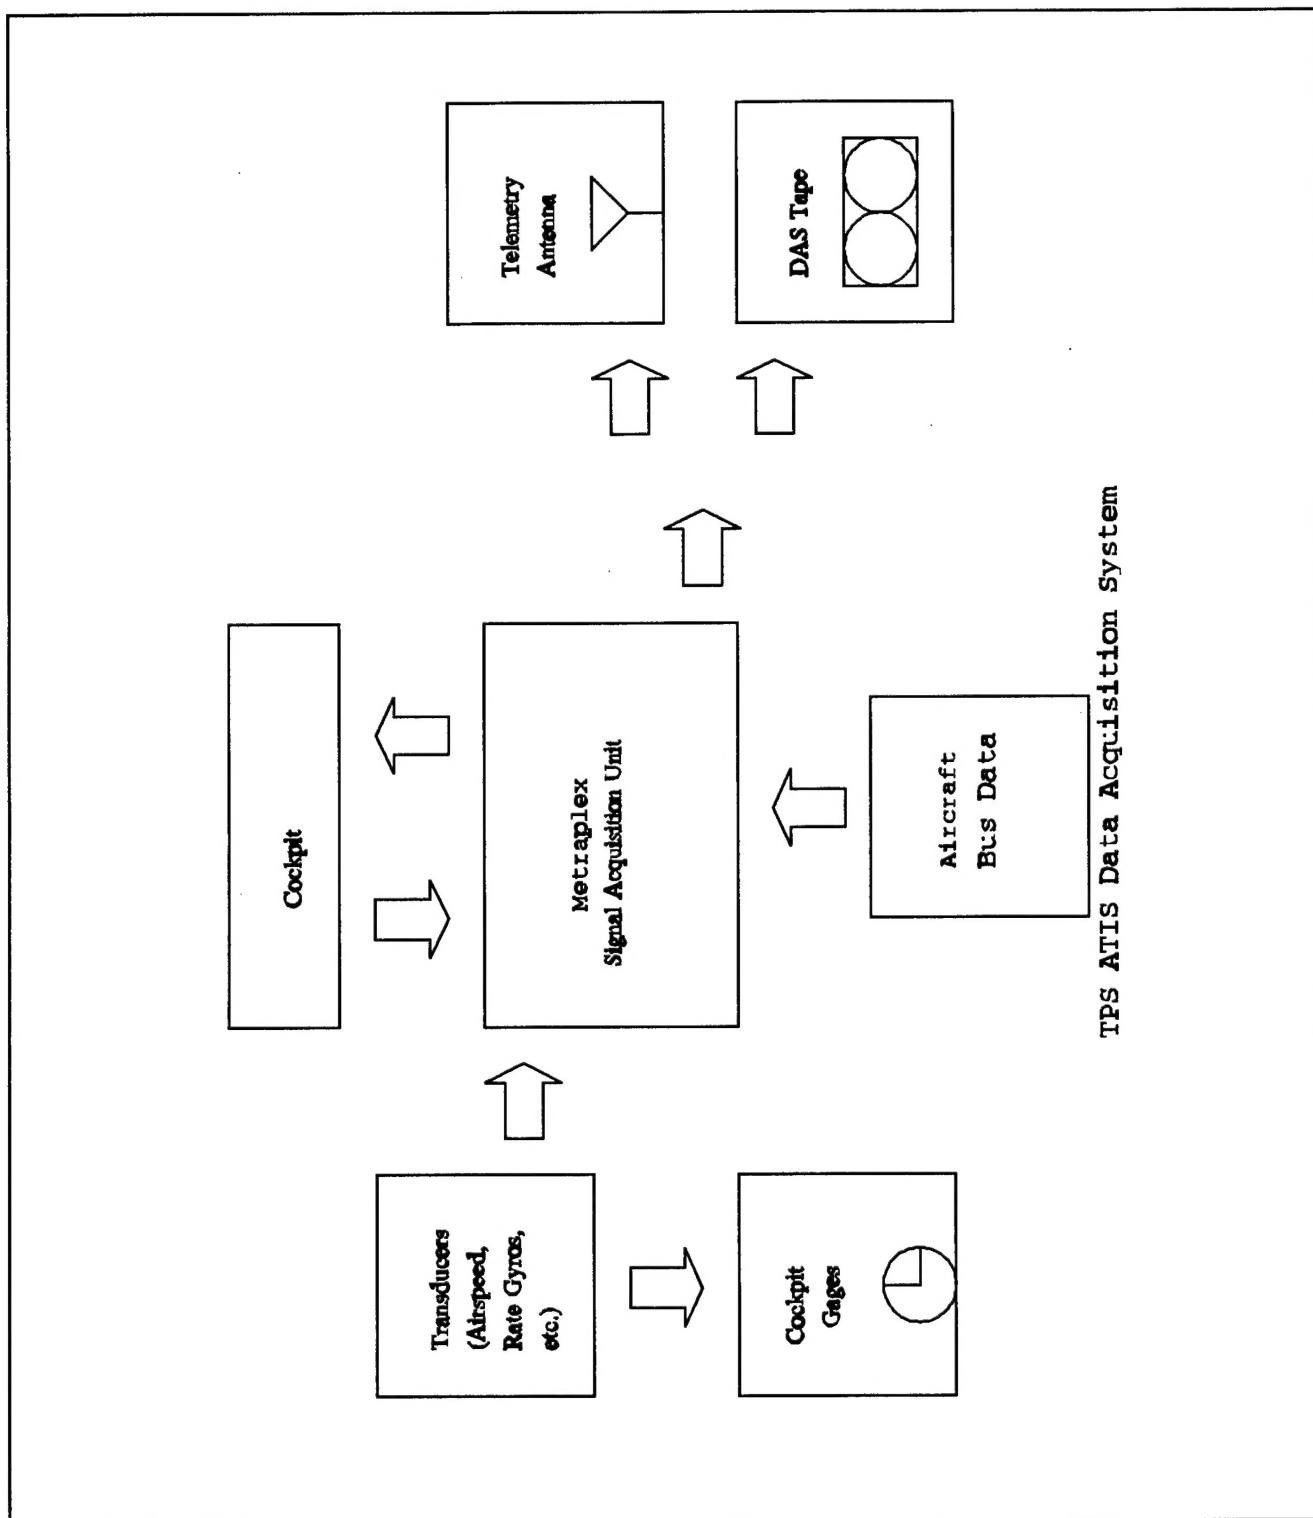

Figure 2-1. Atis Data Acquisition System
1.2 The general system information flow is outlined in Figure 2-1. DAS information for both F-15s and F-16s is received from two sources. The aircraft provides information from the production flight control bus and from transducers that are installed on the aircraft. This data is then processed and combined through the ATIS DAS. The data is output in a PCM stream at 128 kbits/sec composed of 12 bit words (160 words per frame for F-16, 200 words per frame for F-15s). The PCM data stream can then be transmitted to a TPS ground station or recorded on TEAC tape for post flight playback.
1.2 The general system information flow is outlined in Figure 2-1. DAS Information for the T-38s is received from SI transducers which have been installed in the T-38 DAS aircraft. This data is then processed and combined through the Metraplex DAS. This data is output in a PCM stream at 16 kbits/sec composed of 10 bit words at a rate of 50 words per frame. This data stream can then be transmitted to a ground station and routed to TPS or recorded on TEAC tape for post flight playback.